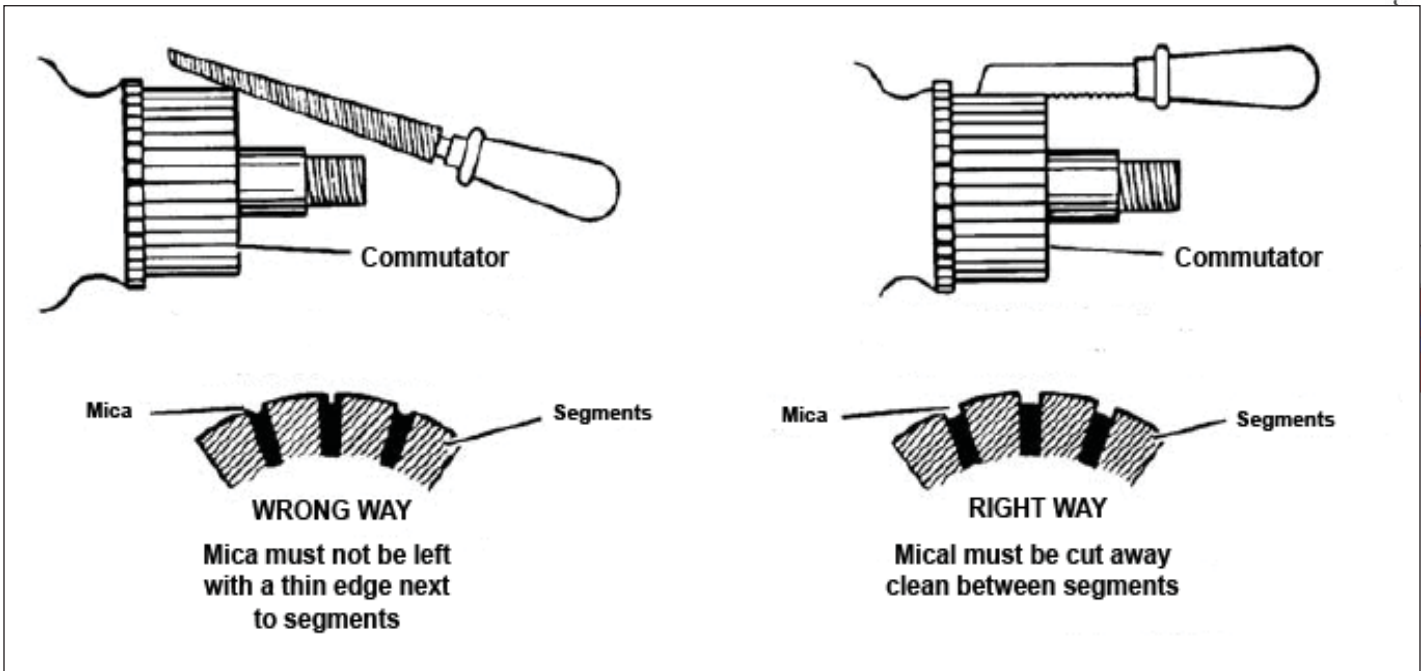

Figure 9-10. Undercutting the Armature
- Support the armature at both bearing journals. Check run- out of commutator with a dial indicator . Total indicated run- out should not exceed 0.005" (0.12 mm). If the readings fall outside this limit, commutator must be turned and undercut. Figure 9-10.